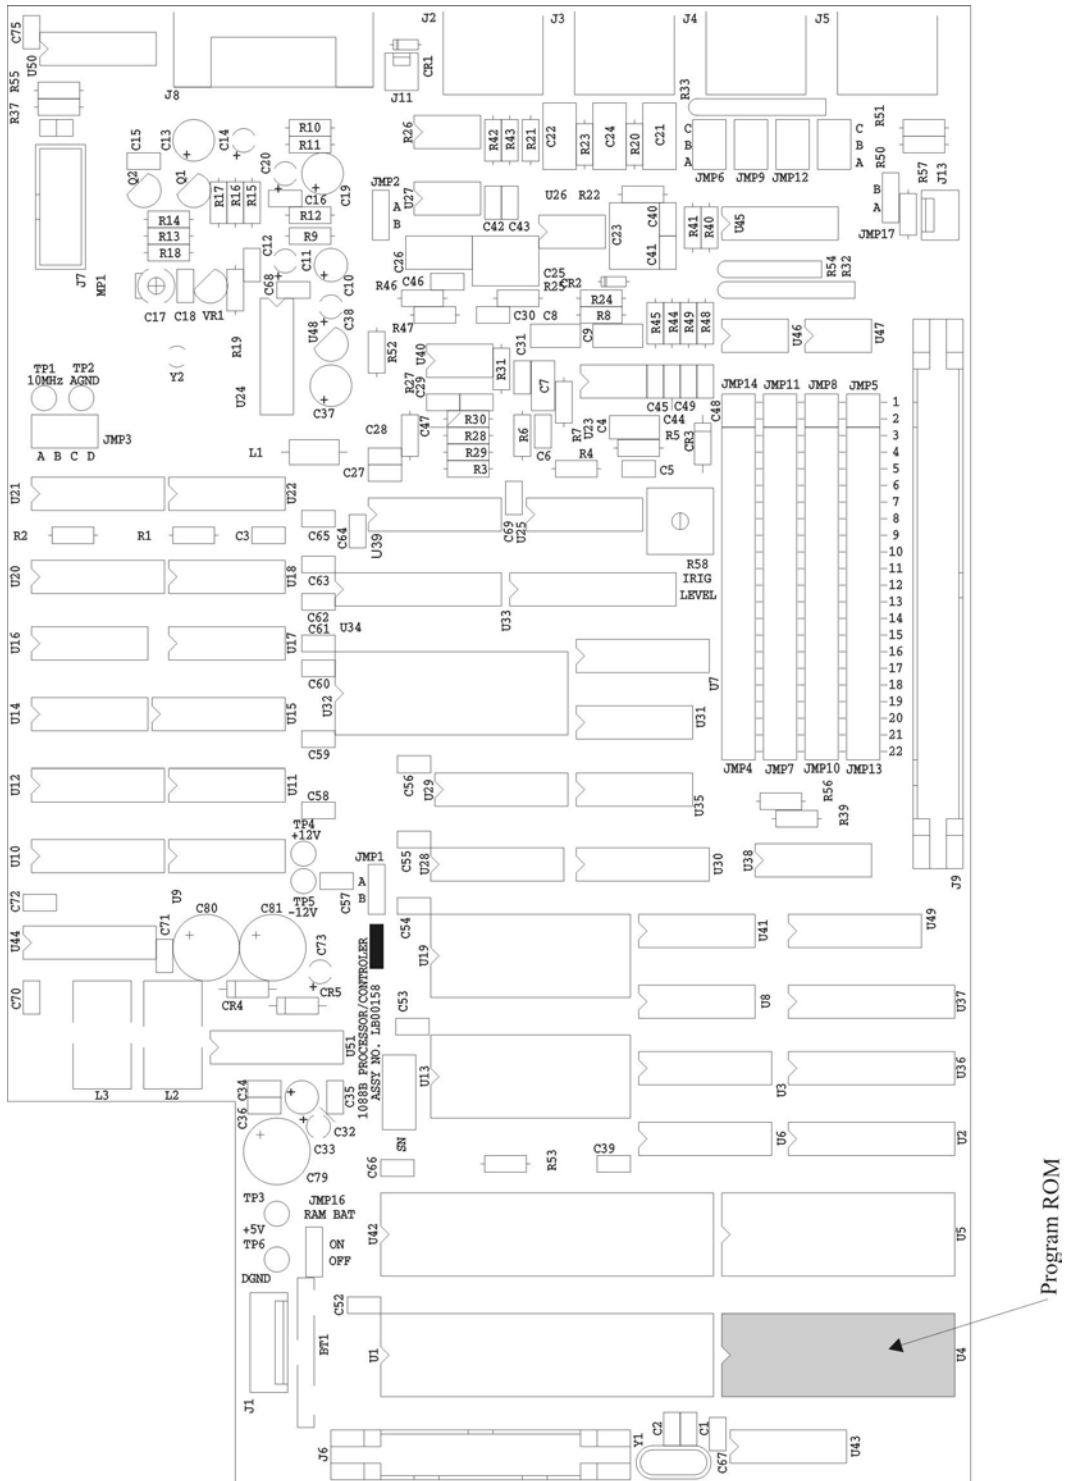

Figure 1. Model 1088B Main Board
1. The program ROM is located at U4 (see Figure 1).